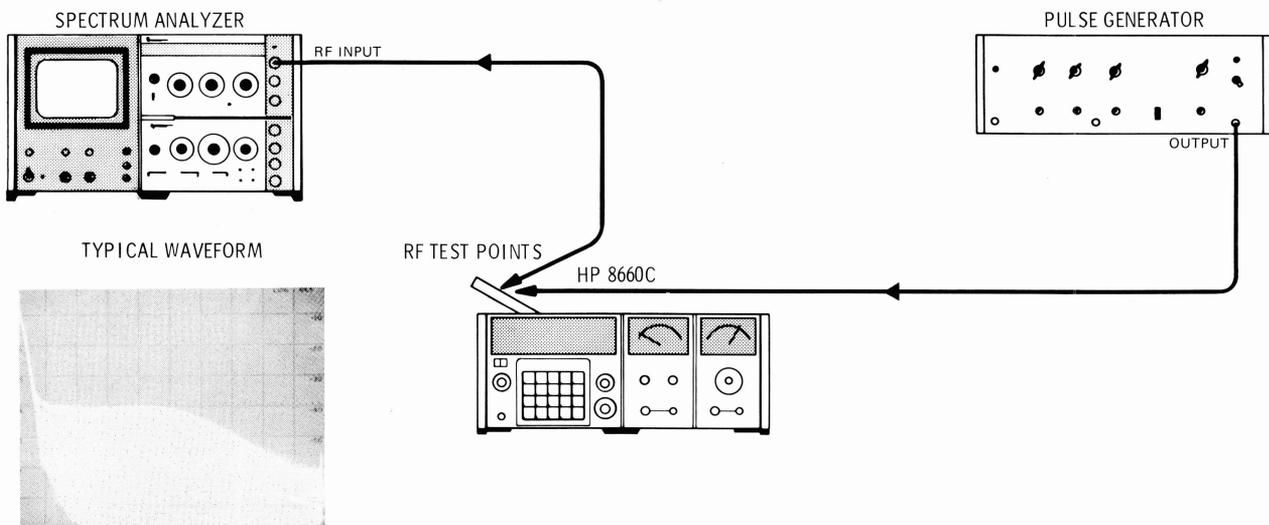

Figure 5-7. Phase Detector Response Adjustment Test Setup
1. Phase Detector Response Adjustments (see Figure 5-7)
- c. Adjust EFFiciency control A4A7R18 for a flat response to approximately 5 MHz with very slight peaking (1 dB \pm 1 dB). See the waveform in Figure 5-7 for typical response.